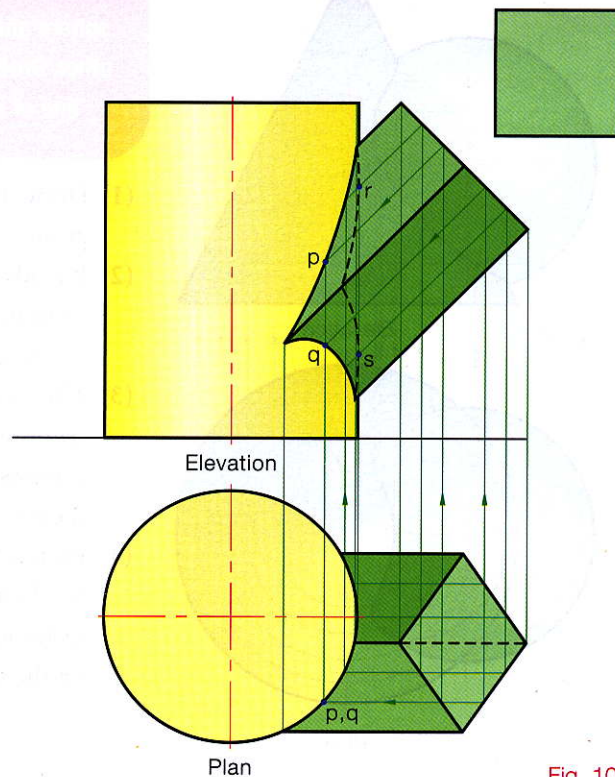

Fig. 10.26
- (1) Set up the plan and elevation.
- (2) Vertical sections will produce intersecting straight lines as shown in Fig. 10.26.